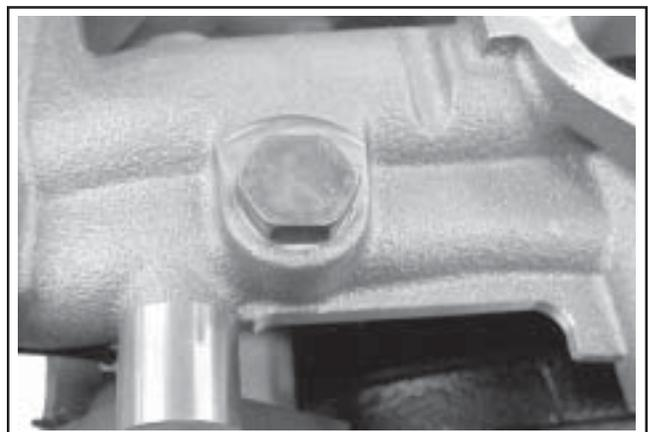

Figure 11-59. Plug in Intake Manifold (for Temperature Sensor).
4. Install and tighten the pipe plug or temperature warning switch, if removed previously from the threaded port of the intake manifold. Use **pipe sealant with Teflon®** (Loctite® 59241 or equivalent) on the threads. Torque to **22.6 N·m (200 in. lb.)**. See Figure 11-59.